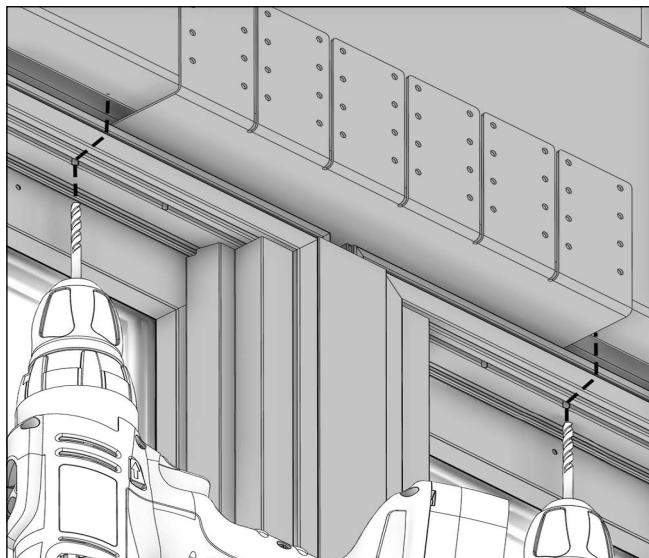

Figure 96 Casement
3. Casement product hole locations will align with the through jamb holes in the interior kerf. All holes regardless of unit type will align with the existing through jamb holes. Drill the marked locations, drill through the frame with a 3/16" drill bit. Once all holes are drilled, fasten the frame to the RO with the provided #8 x 3" screws using a T20 star bit. Additional shimming may be required. DO NOT OVERTIGHTEN. See Figure 96